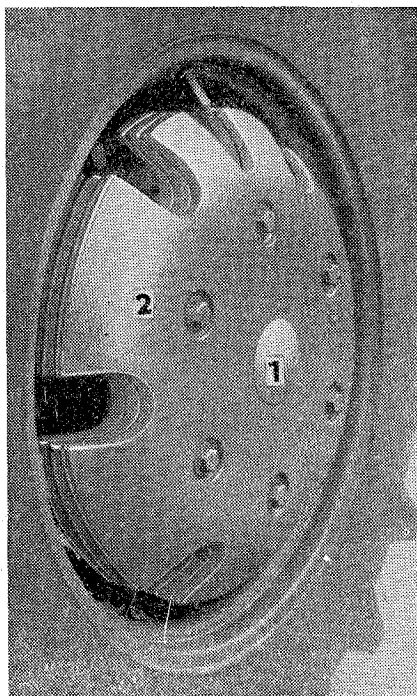

Fig. 47
(2) Rear wheel ballast weights (Fig. 47)